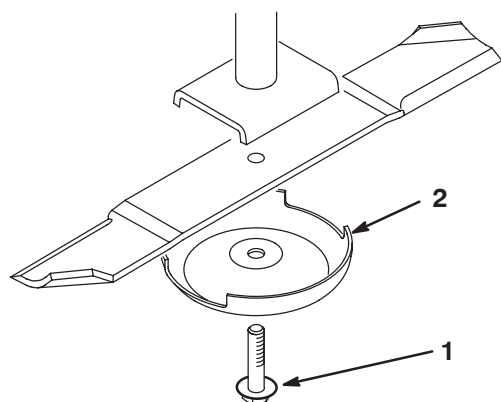

Figure 29
2. Grasp the end of the blade using a rag or thickly padded glove. Remove the blade bolt, anti-scalp cup, and blade from the spindle shaft (Fig. 29).